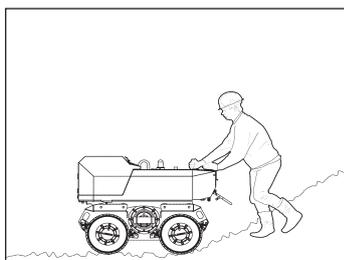

Fig. MB1 Coming from below
- ➔ Move the machine up to the edge of the embankment (Fig. MB1-MB2).